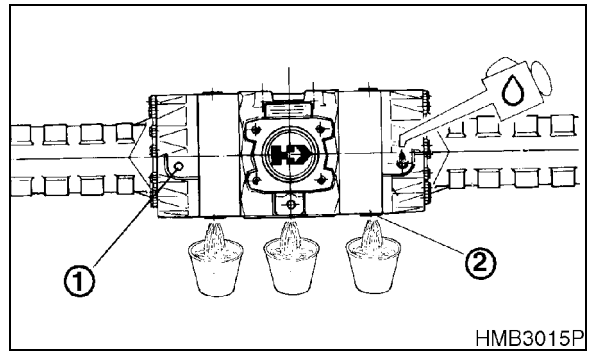

Figure 80
3. Clean area around level plug (1, Figure 80) and drain plug (2) on center differential. Remove level plug and drain plug. Allow oil to drain into a container.